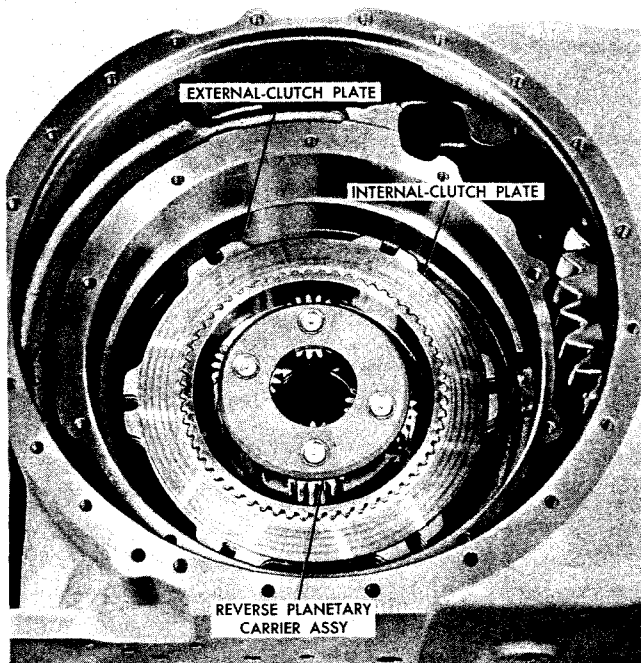

Fig. V-28. Removing reverse-range planetary carrier assembly and clutch plates
(2) Remove the reverse planetary carrier assembly and the reverse clutch plates (fig. V-28).